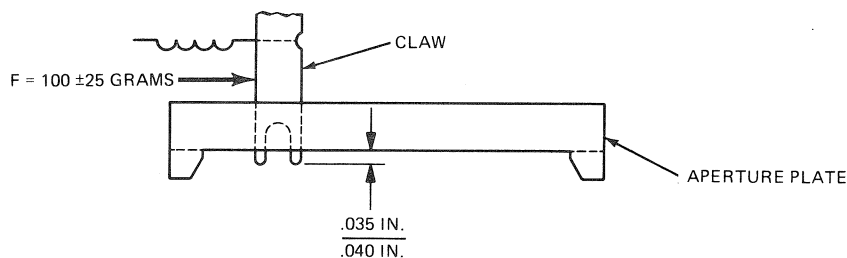

Figure 5-6. Claw Penetration
The pull-down claw return spring (figure 4, sheet 1, item 115) is located between the cam and the aperture plate. See figure 4-4. The pull-down claw return spring is a coil spring which has one end mounted stationary to the lug (figure 4, sheet 1, item 88) and the other end mounted on the pull-down claw approximately 90° to its axis. The resultant force is 100 grams \pm 25 grams. (See figure 5-6).
Claw penetration (into the film perforations) should be between .035 and .040 inch measured at the right claw tooth. Desired claw penetration is achieved by setting the cam such that the claw is in the half pull down position and shifting the claw adjusting plate (figure 4, sheet 1, item 73) forward or backward via the adjusting binding head screw (figure 4, sheet 1, item 123). Penetration is measured from the claw tips to the aperture plate rails with a feeler gauge or common fixed inch scale (see figure 5-6).